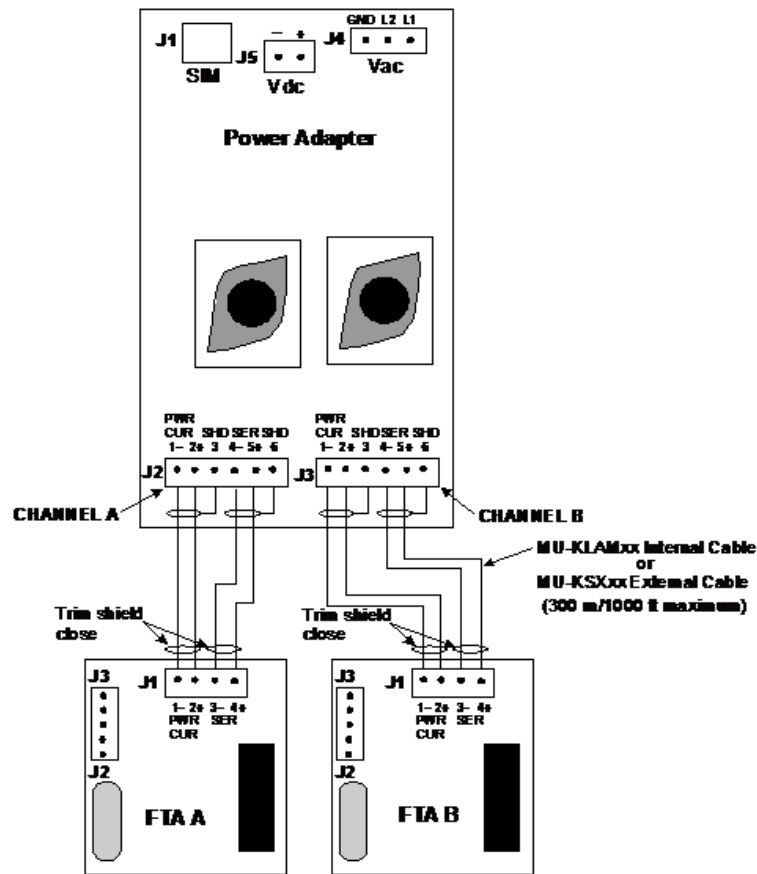

Figure 5: Power Adapter to Serial Interface FTA Wiring
S+ to pin 5 + SER. Connect the shield wire for this pair to pin 6 SHD. See the connection diagram in the previous “Figure 5: Power Adapter to Serial Interface FTA Wiring”Figure for reference.
- 4 Locate the J1, 4-pin connector on the FTA ' A '. Observing polarity, connect the cable lead marked P- to pin 1 - PWR CUR and lead marked P+ to pin 2 + PWR CUR. Trim the shield wire for this pair close to the cable insulation. Observing polarity, connect the cable lead marked S- to pin 3 - SER and lead marked S+ to pin 4 + SER. Trim the shield wire for this pair close to the cable insulation. See the connection diagram in the previous “Figure 5: Power Adapter to Serial Interface FTA Wiring”Figure for reference.
- 6 Locate the J3 (CHANNEL B), 6-pin connector on the Power Adapter. Observing polarity, connect the cable lead marked P- to pin 1 - PWR CUR and lead marked P+ to pin 2 + PWR CUR. Connect the shield wire for this pair to pin 3 SHD. Observing polarity, connect the cable lead marked S- to pin 4 - SER and lead marked S+ to pin 5 + SER. Connect the shield wire for this pair to pin 6 SHD. See the connection diagram in the previous “Figure 5: Power Adapter to Serial Interface FTA Wiring”Figure for reference.
- 7 Locate the J1, 4-pin connector on the FTA ' B '. Observing polarity, connect the cable lead marked P- to pin 1 - PWR CUR and lead marked P+ to pin 2 + PWR CUR. Trim the shield wire for this pair close to the cable insulation. Observing polarity, connect the cable lead marked S- to pin 3 - SER and lead marked S+ to pin 4 + SER. Trim the shield wire for this pair close to the cable insulation. See the connection diagram in the previous “Figure 5: Power Adapter to Serial Interface FTA Wiring”Figure for reference.